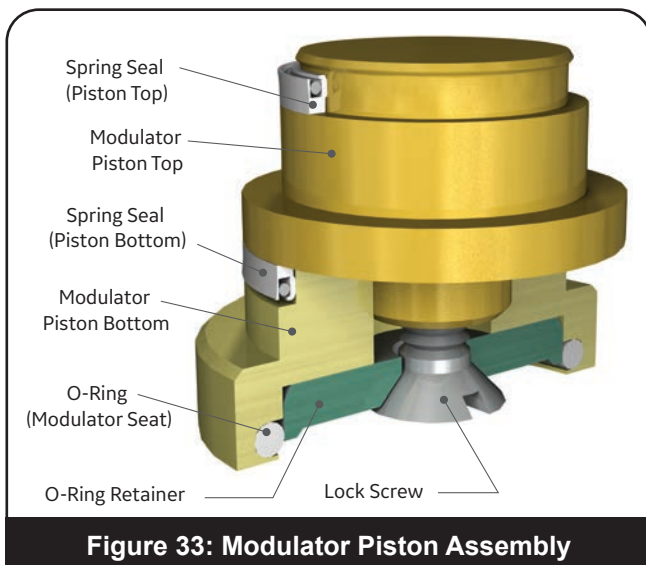

Figure 33: Modulator Piston Assembly
- h. Final Modulator Piston Assembly is shown in Figure 33.